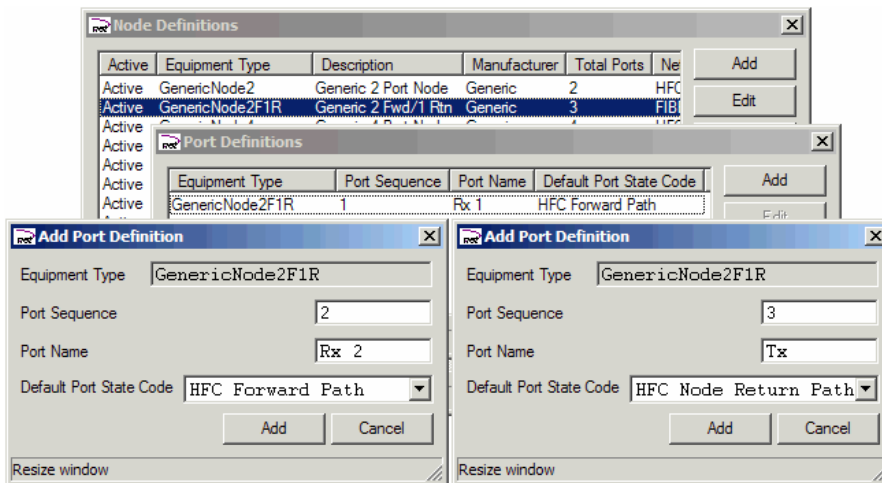

Figure 96 – Adding ports to a node type.
- Click the **Add** button on the **Ports** list panel. This will allow you to specify the details of each port you wish to add to the node type. We will add two ports of type **HFC Forward Path**, and one port of type **HFC Return Path**, as shown in Figure 96, below.
- Close each of the panels shown in Figure 96, below when complete.